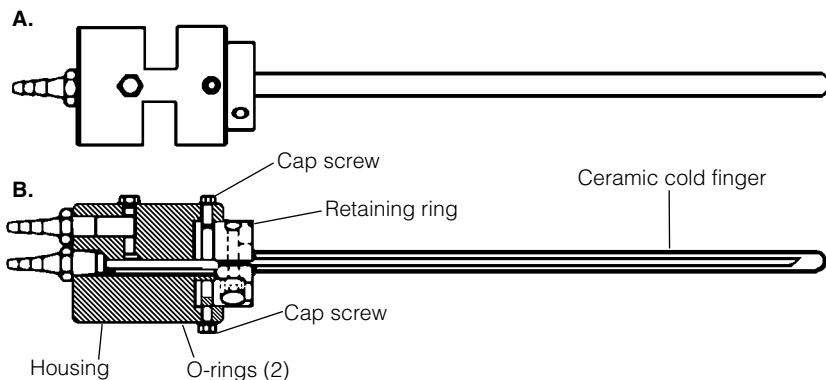

Fig. 1. A) Heat exchanger assembly. B) Section view of the heat exchanger assembly.
2. Loosen the cap screws by rotating them six complete turns counterclockwise. See Figure 1.